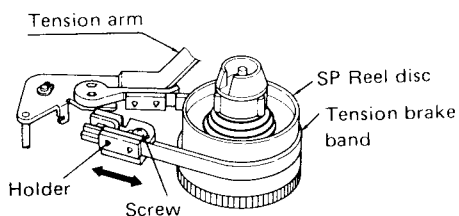

Fig. 4-2
- 5) If the tension pole is outside the range, move the holder shown in Fig. 4-2 and adjust the position of the tension pole.